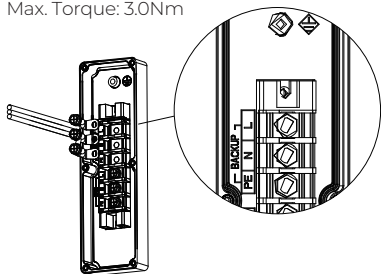

Figure 6-13-3
Step 3: Fix the terminals to EP760 inverter BACKUP and GRID areas with a cross screwdriver as shown in Figure 6-13-3 and 6-13-4.